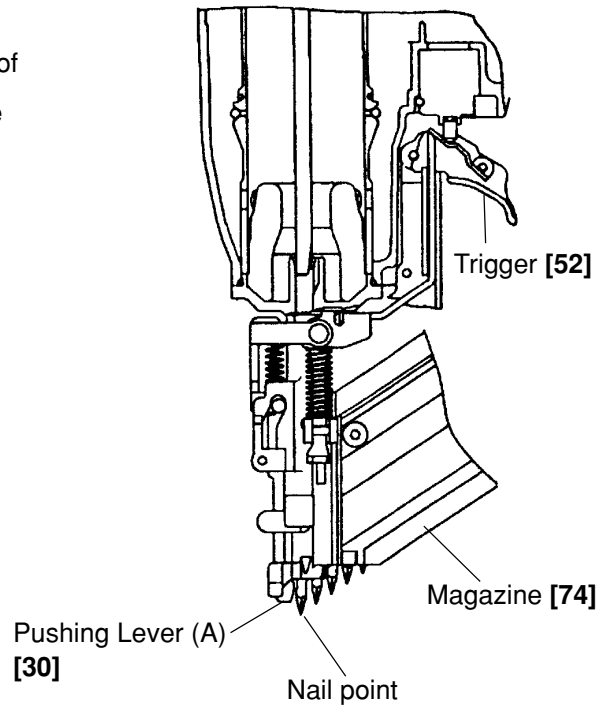

Fig. 7
(1) Pushing lever mechanism
- (a) The tip of Pushing Lever (A) [30] is at the back of the nail point after loading nails in the Magazine [74]. Thus, the nail point can be easily inserted into the hole in the metal connector (Fig. 7).